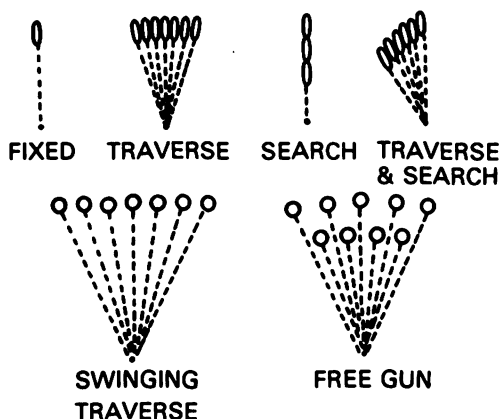

Figure 3.
a. **Traversing:** This is moving the muzzle of the weapon to the left or right to distribute fire laterally. With the bipod-mounted gun, this is accomplished by selecting successive aiming points in the target area (figure 3). The gunner shifts his shoulders slightly to the right or left for minor changes. For major changes in direction, he moves his elbows and realines his body to remain directly behind the gun.
b. **Searching:** This is moving the muzzle of the weapon up or down to distribute fire in depth and is accomplished by selecting successive aiming points in the target area (figure 3). To make changes in elevation, the gunner moves his elbows closer together or farther apart.